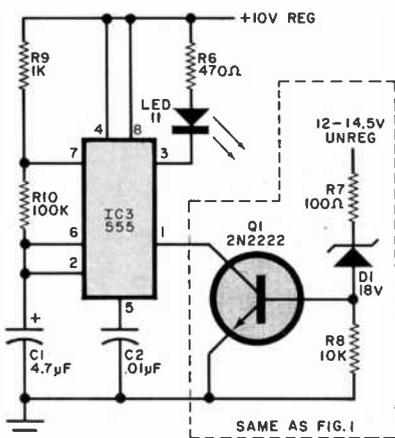

Fig. 2. Overvoltage indicator has a flash rate of 1.5 Hz.
The overvoltage warning indicator uses an 18-volt zener diode, *D1*, to trigger *Q1* into conduction if this potential is exceeded on the unregulated power line. When *Q1* conducts, **OVERVOLTAGE LED11** comes on. If desired, **LED11** can be replaced by a flasher circuit such as that shown in Fig. 2, or *Q1* can be used to drive a Sonalert No. SC628 or similar audible alarm.
PARTS LIST (Fig. 2)
the attenuator, P_O , is related to the input power P_I by the equation $P_O = (K) (P_I)$ with $K = 1/10$; where K is a ratio called the gain factor. Of course, it is possible to cascade two or more such networks to obtain a cumulative effect, as shown in Fig. 2. Here two attenuating networks are used. Their total effect is identical to that produced by a single attenuator with a gain factor of $1/100$: $P_O = (1/10) (1/10) (P_I) = (1/100) (P_I)$.